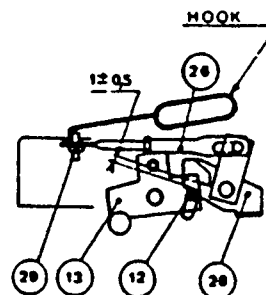
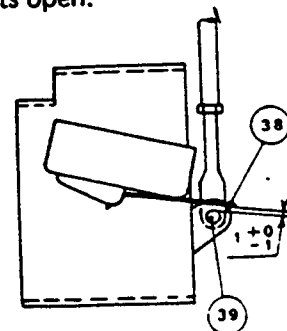

Fig. 17
Fig. 21
A. Tripping (Fig. 17 and 18)
- 1) Adjustment. Place breaker in open position and unscrew adjusting reset screw (30). With release bar in latched on position resulting from breaker being in open position, adjust linkage (26) to provide 1 ± 0.5 mm (0.039 ± 0.020 inch) between lever (28) and lug (12) of the latch (13).
- A. Limit switch for Latch Indication. Place bar in latched position as shown in Fig. 17 and 18. In this position, the limit switch contacts will be closed. Deform strip (38) Fig. 21 to provide a maximum gap setting of 1 mm (0.039 inch) between strip (38) and lug (39). NOTE: This adjustment must be performed without applying voltage to the undervoltage holding coil. Following adjustment, operate voltage release device permitting release bar to unlatch. Inspect limit switch to see that contacts open.